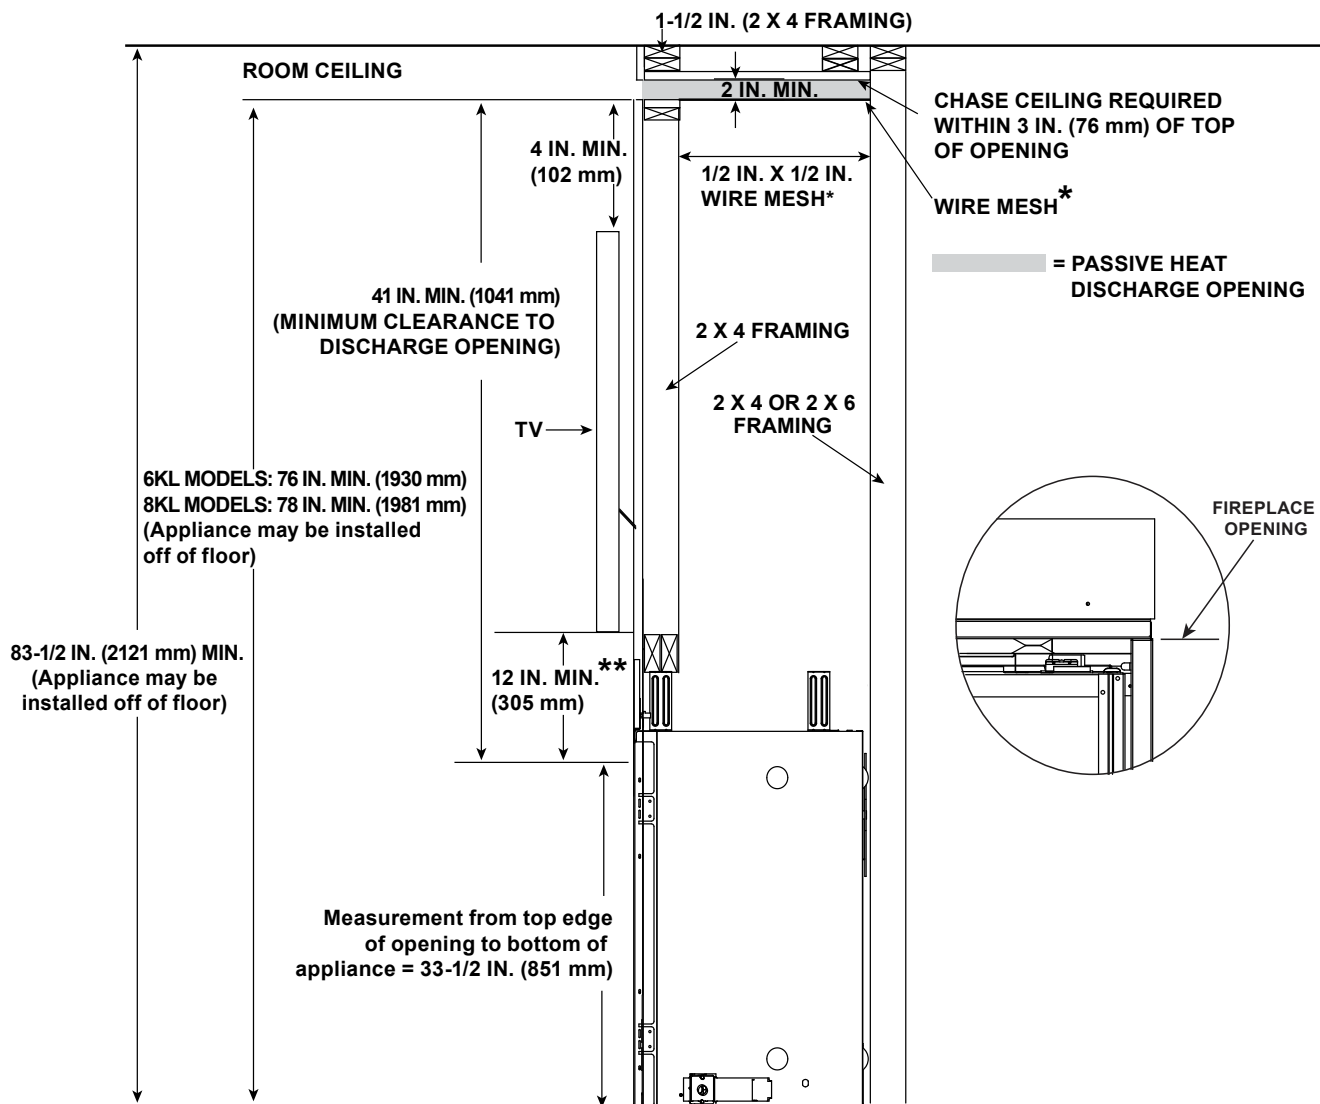

**Figure 10.17 Install Finishing Strips**
2. Finishing strips required. Shipped with appliance. See Figure 10.17.
1. Align finishing strip with the two pre-drilled holes on the appliance top and sides as shown in Figure 10.17.